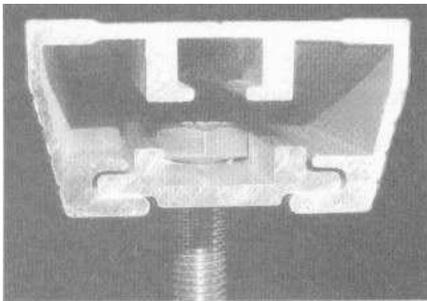

Figure 2
3. Place 8mm bolt into the slide plate (bracket). Slide the plate and bolt into the mounting extrusion. See Figure 2.